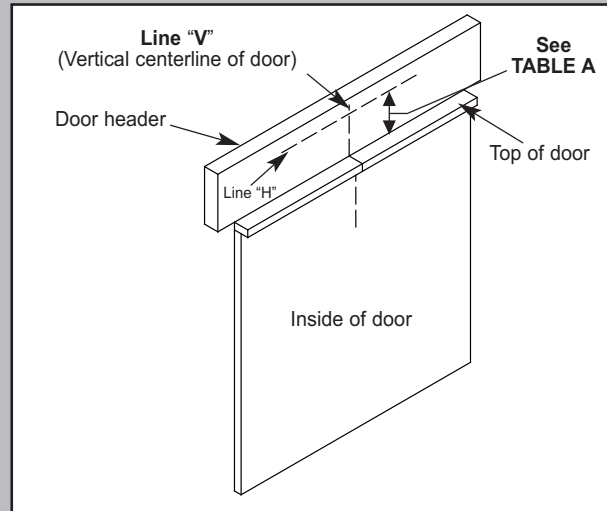

Fig. 2-9
**1. Establish center line of door and header (Fig. 2-9).**
**3. Locate header bracket (Fig. 2-9).**